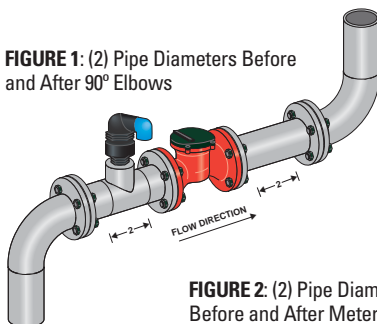

FIGURE 1: (2) Pipe Diameters Before and After 90° Elbows
- Two (2) diameters of straight pipe are required when installing a 90° elbow before or after the meter. (Figure 1)